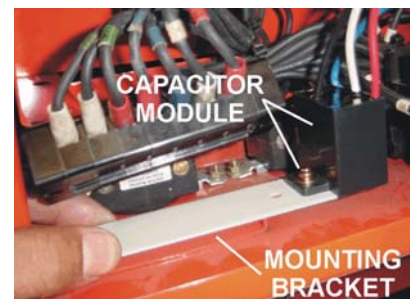

Figure 10. Mounting Bracket
5. Using the M4 hex nut, lock washer and flat washer, attach the capacitor module to the mounting bracket as shown in Figure 10. Align the hole on the capacitor module with the hole on the mounting bracket.